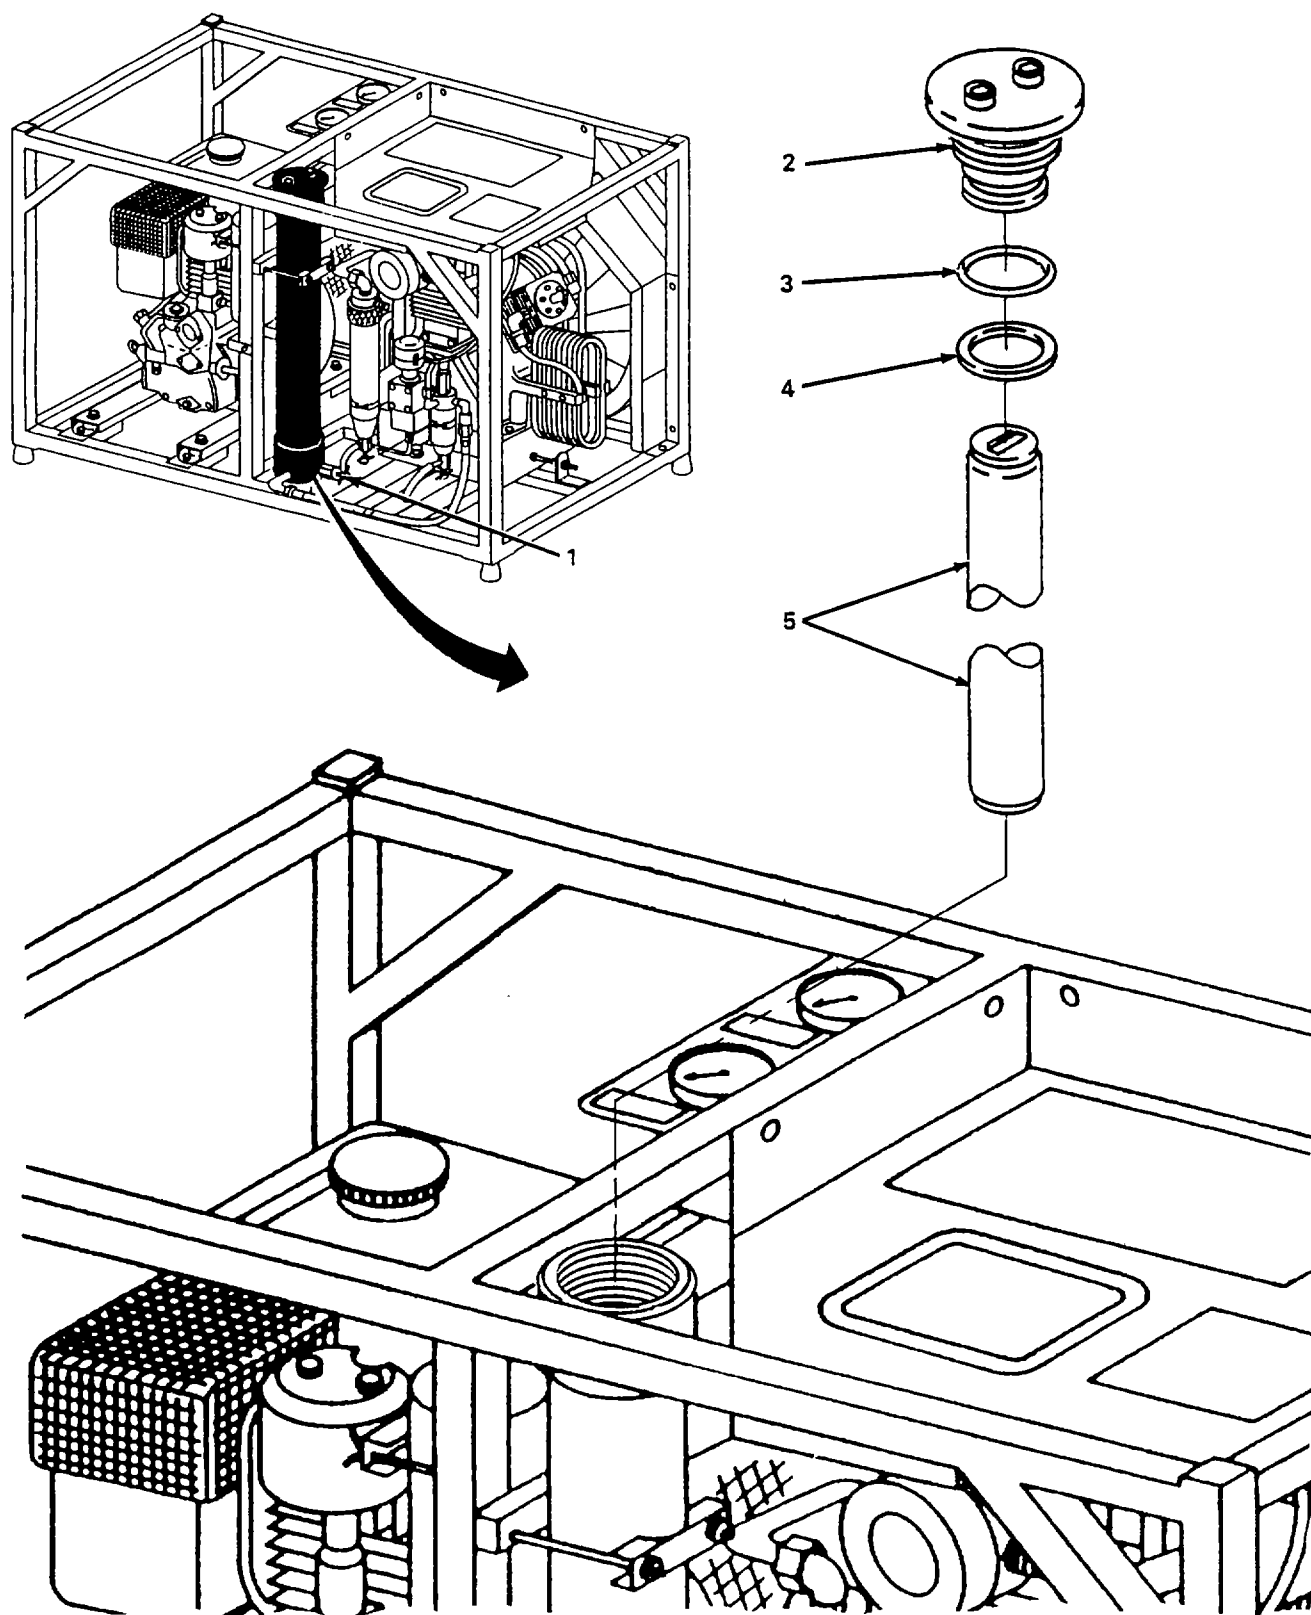

Figure 5-3. Purifier Assembly, Service.
a. Service. (figure 5-3)
- (1) Open drain valve (1) and remove pressure from air system.